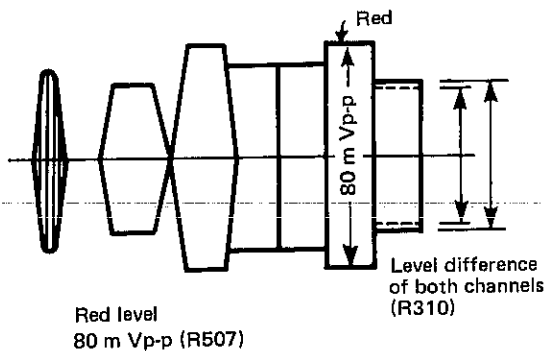

Figure 60.
- c) Balance the two channels as shown in Figure 60 with R310 (REC BALANCE).